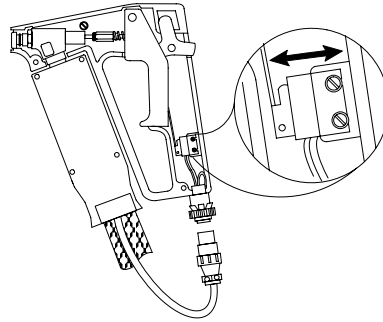

Figure 46 Adjust the Electrical Switch
8. If continuity does not exist, loosen the switch's mounting screws and slide the switch toward or away from the trigger until continuity is indicated. See Figure 46.